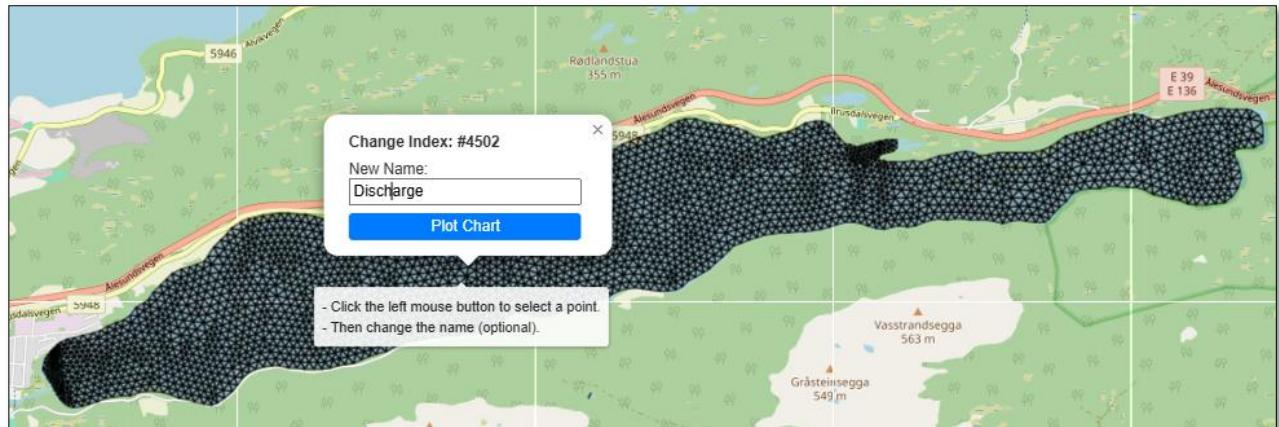

Figure 4.10. Select a location for the thermocline chart
- Step 2: Select a location from the grid printed on the map (**Figure 4.10**). Change the name of the point if you prefer another name. Then, click the “**Plot Chart**” button to draw.